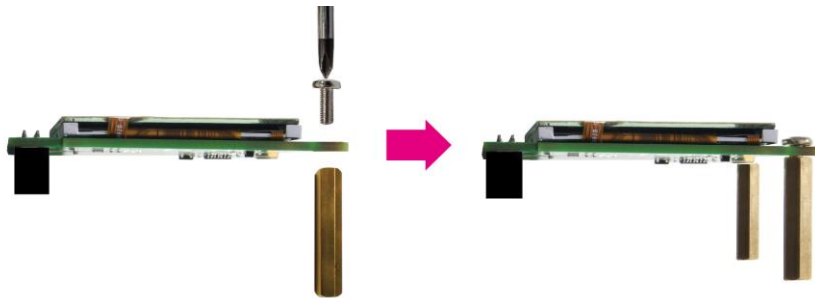

Figure 1-2 Install the hexagon copper pillars
1. Install the screw nuts from top to the bottom of screw holes reserved on the LT24. Install the hexagon copper pillars and make sure then are tightened up, as shown in **Figure 1-2**.